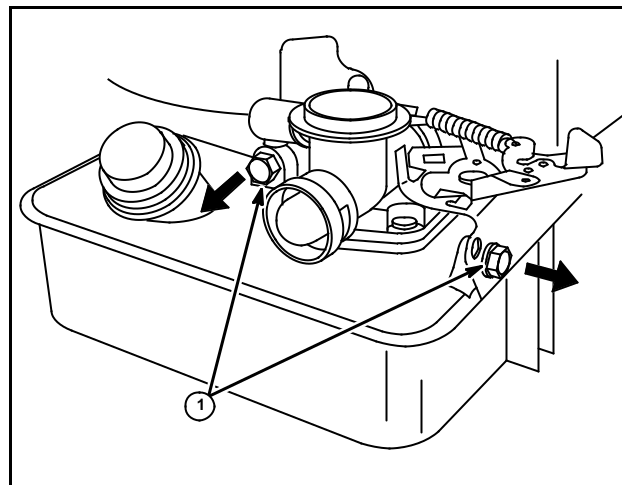

Fig. 1
Remove Carburetor and Tank Assembly (Figs. 1 & 2)
1. Remove fuel tank mounting bolts (1), Fig. 1.
2. Slip carburetor and fuel tank assembly off fuel in-take tube (3).
3. Turn assembly to free throttle link from throttle lever (1).
4. Install and tighten mounting screws securely, Fig. 1.